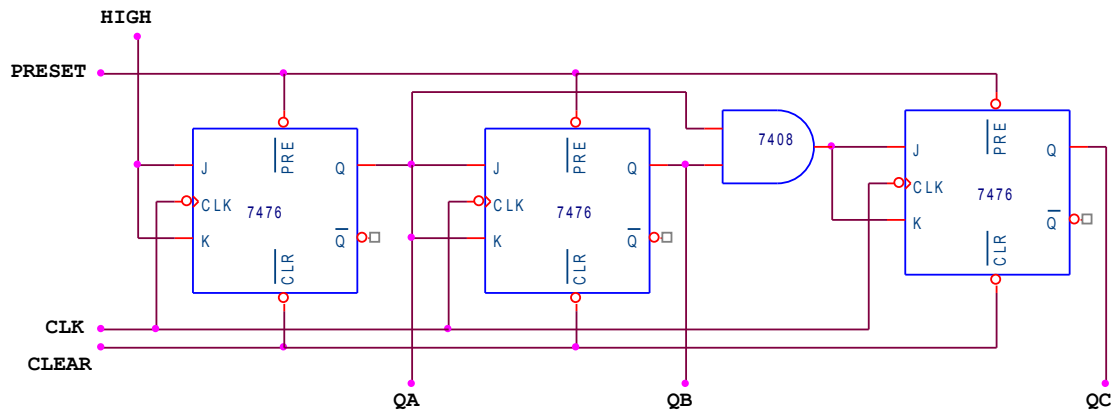

Figure 9.1: Logic diagram of 3-bit Synchronous counter
1. Construct the logic circuit as shown in figure 9.1.